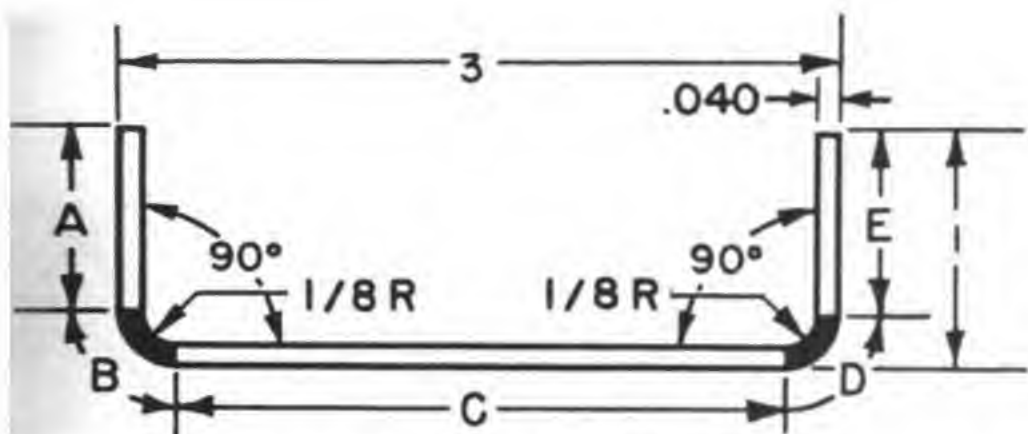
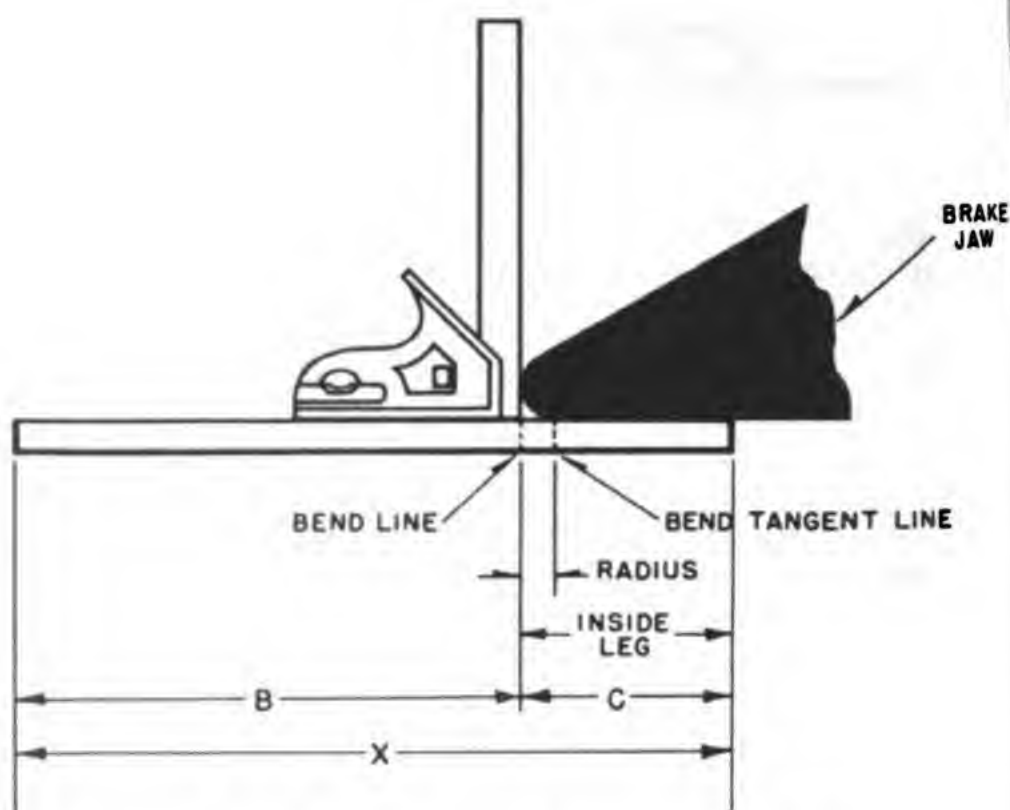
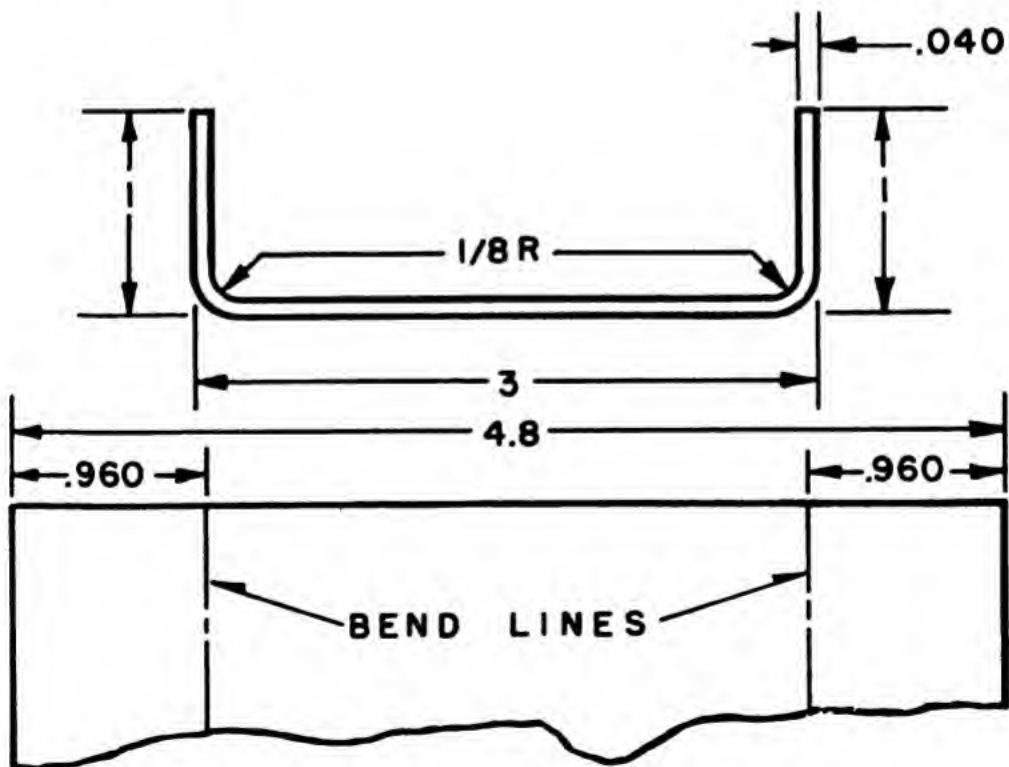

Figure 7-12.—Setback formula problem.
Figure 7-16.—Simple flat layout bending method.
Figure 7-17.—Dimensions for flanged fabrication.
BEND LINE (sometimes called **BRAKE** or **SIGHT LINE**).—The layout line on the metal being formed which is set even with the nose of the brake and serves as a guide in bending the work. See figure 7-16.
To illustrate the use of the bend allowance and setback formulas in figuring the amount of material needed for the flat layout and in locating the bends, a few typical problems are worked out. For a job involving two 90° bends we will use the problem subsequently used as an example for the simple flat layout method and shown in figure 7-17. The comparative accuracy of the simple method for this type of bend will be made evident. Figure 7-12 shows the problem in detail. The term "base measurement" means the same thing as "mold line measurement" shown in figure 7-9.
2. Determine length of all flats (fig. 7-12).
$\text{Total length} = 4\frac{49}{64}$ or 4.77 (as compared to $4\frac{5}{6}$ or 4.80 by the simple method illustrated in figure 7-17).
inserted in the brake. Then the bend line is measured and marked with a soft pencil from the bend tangent line closest to the end which is to be placed under the brake. This measurement should be equal to the radius. The metal is inserted in the brake so that the nose of the brake will fall directly over the bend line, as shown in figure 7-16.
Figure 7-16 illustrates an accurate method of bending the flat layout which has one or two 90° bends. This method may be used for the majority of aircraft fabrication involving bending. It is applicable to only those 90° bends whose radius is equal to approximately 1, 2, or 3 times the thickness of the material. For example, where R equals $\frac{3}{2}$ (0.0937), and t equals 0.051, R equals $2t$ approximately. In using this method, the end of the sheet closest to the bend line must be inserted in the brake. The distance the bend line is located
Figure 7-17 illustrates the dimensions for a flanged job which can be laid out by the above method.
2. Determine overall length, as shown in figure 7-17.
3. Each bend is made by inserting the end of the metal under the jaw of the brake so that the bend line—which has been marked on the sheet with a soft-lead pencil—will be directly under the nose of the brake, as demonstrated in figure 7-16. The bend line here is 0.960 inch from the end of the sheet, as shown in figure 7-17.